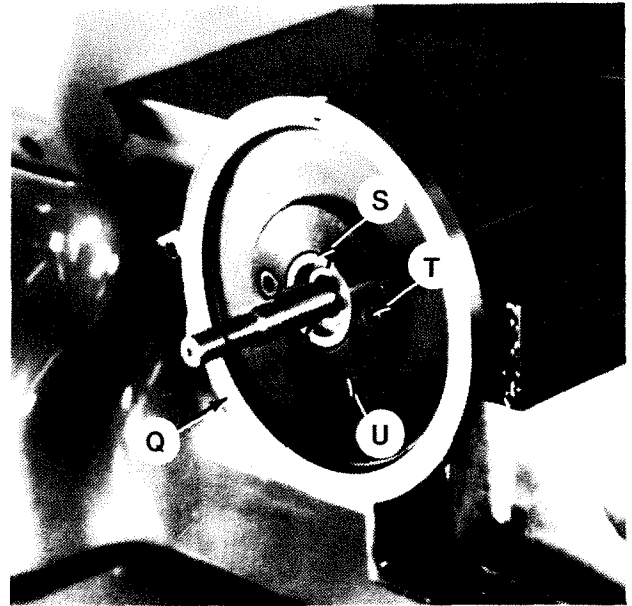

Figure 2.8 - Feed Screw Bearing Housing
15. Remove nut "S", Figure 2.8, and the bearing behind the nut.
Removing two screws "T" will allow bearing housing "U", and zero ring "Q", Figure 2.8, to be removed.
1. If removed, replace zero ring "Q", bearing housing "U", and two screws "T", Figure 2.8 .
3. Replace the bearing and nut "S", Figure 2.8 .